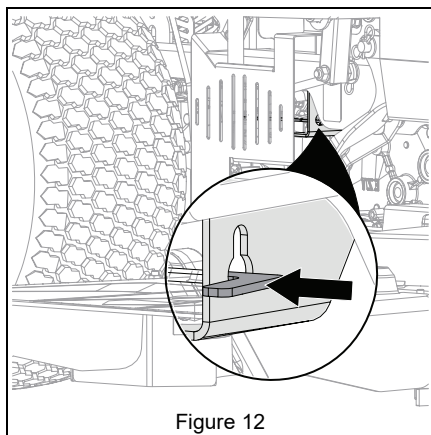

Figure 12
5. Return transaxle bypass levers to operating position. See Figure 12.